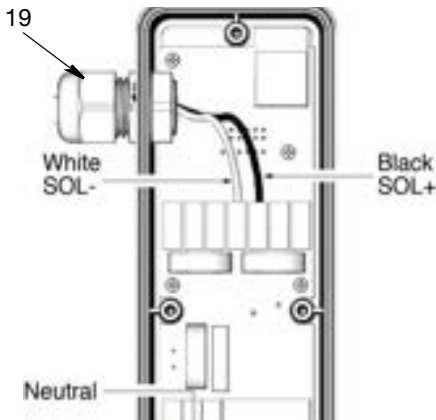

FIG. 8
- Inside the PAC enclosure (2), connect the neutral (white) wire to SOL - (white) and the line (black) wire to SOL + (black) in the terminal block (FIG. 8).